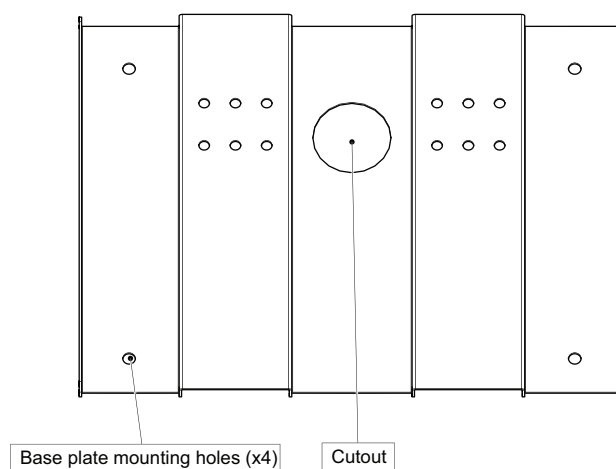

Figure 10 Base Plate Mounting Holes
6. Using the Kiosk base plate as a template, trace an opening in the floor for the cutout and mark the 4 base plate mounting hole locations as shown in Figure 10. Ensure that the base plate is aligned with the electrical conduit.
9. Secure the base plate to the floor using 4 bolts in the base plate mounting holes shown in Figure 10. The holes are 0.406" in diameter.